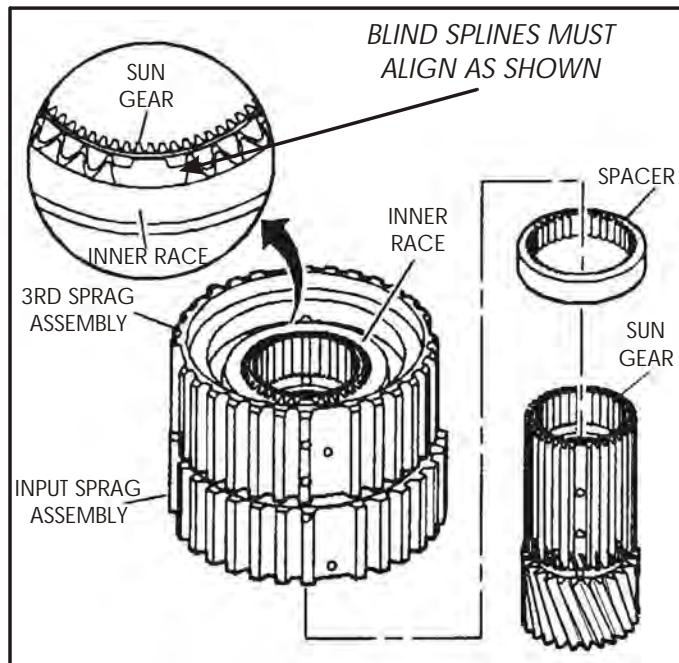

Figure 100
13. Install the sun gear spacer onto the input sun gear, as shown in Figure 100.
14. Install the inner race and input/3rd clutch sprag assembly onto the input sun gear, as shown in Figure 100.
- Important:** The blind splines on the input sun gear and the sprag inner race **must** be aligned, as shown in Figure 100.